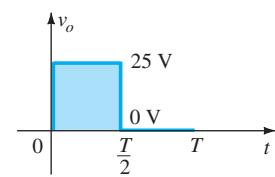

FIG. 2.80
results, placing the diode in the “off” state, and $v_o = i_R R = (0)R = 0$ V. The resulting output voltage appears in Fig. 2.80.